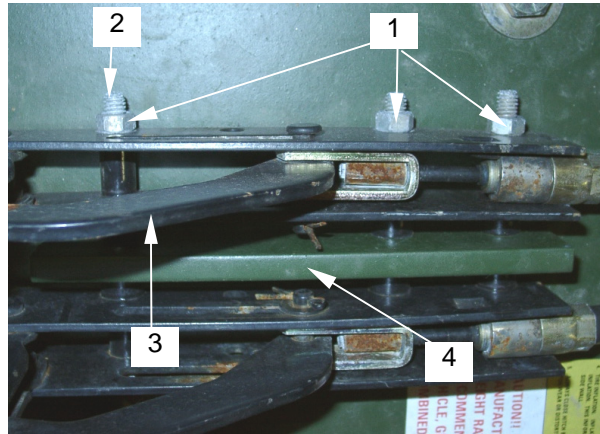

Figure 4. Parking Brake Handle Assembly Removal
1. Loosen and remove hex nuts (**figure 4, item 1**) on bolts (**figure 4, item 2**) securing the brake handle assembly (**figure 4, item 3**) to the bracket (**figure 4, item 4**).
2. Remove bolts (**figure 4, item 2**). Retain hardware.